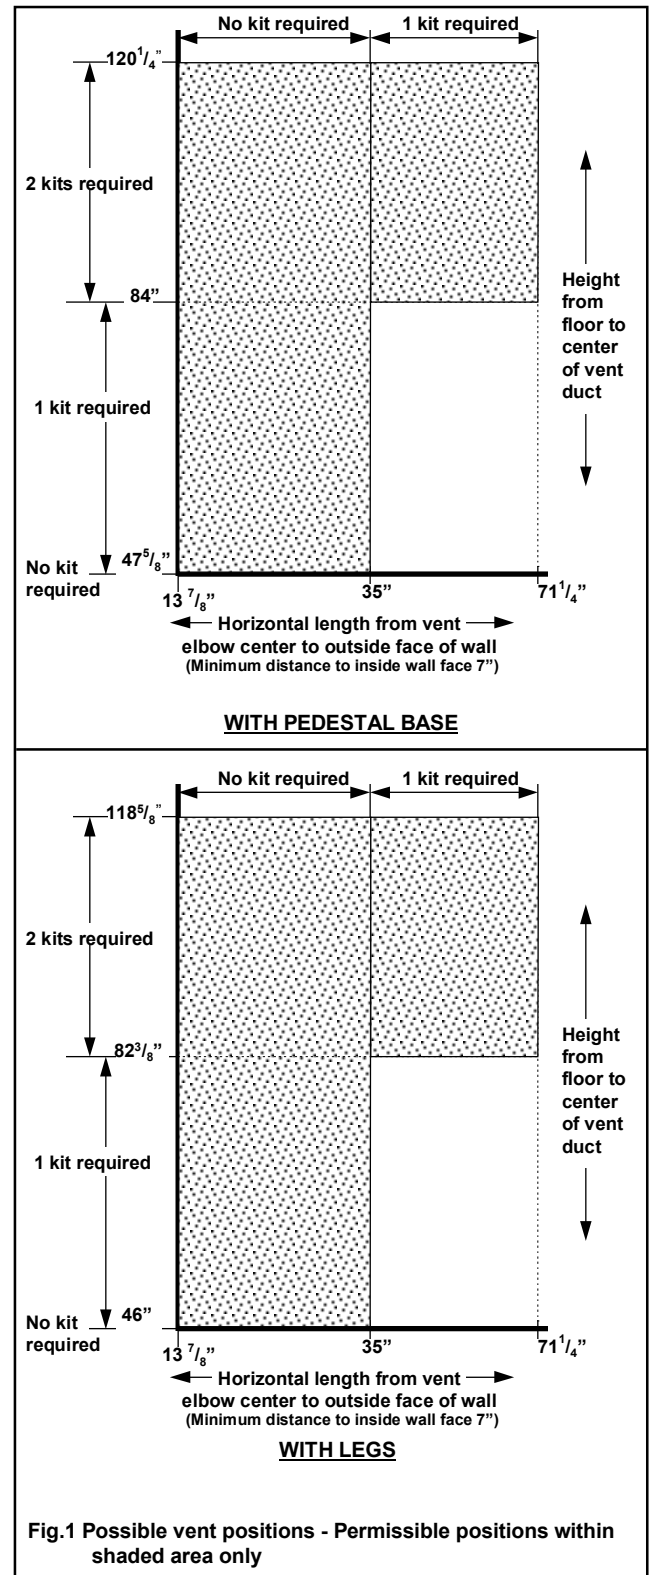

Fig.1 Possible vent positions - Permissible positions within shaded area only
Designed to give a greater range of venting configurations. See venting graph figure 1 for the available configurations. Use of these kits will allow the stove to be sited in a basement provided that the terminal is above ground.
- 4.2 The vent unit is suitable for wall thicknesses between 3" and 24½". If a vent extension is used horizontally, this can be inserted in the wall allowing for wall thicknesses up to 60¾". See figure 1 for limitations on use of horizontal extension.